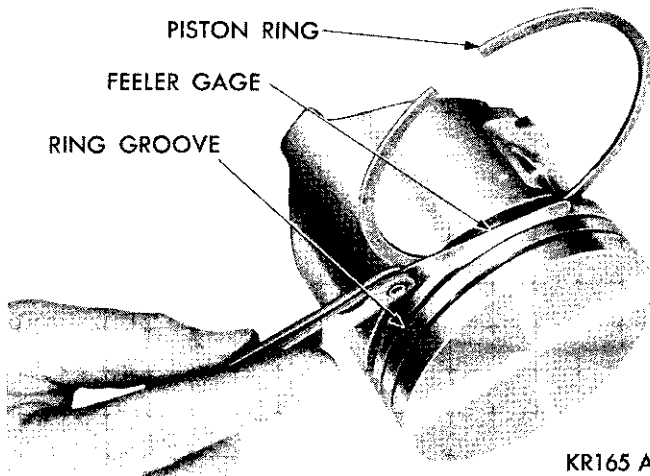

Fig. 37—Measuring Piston Ring Clearance
(3) Measure side clearance between piston ring and ring groove (Fig. 37). Clearance should be .0015 to .003 inches for the top compression ring and intermediate ring. Steel rail service oil ring should be free in groove, but should not exceed .005 inch side clearance.
(4) Install the three piece oil ring in lower ring groove using instructions in ring package.
(5) Install compression rings in middle and top groove as shown on instruction sheet. Be sure the mark "top" on each compression ring faces top of piston.
(6) For the two top rings use ring installer Tool C-3673 for 383 cubic inch engines and Tool C-4001 for the 440 cubic inch engines.